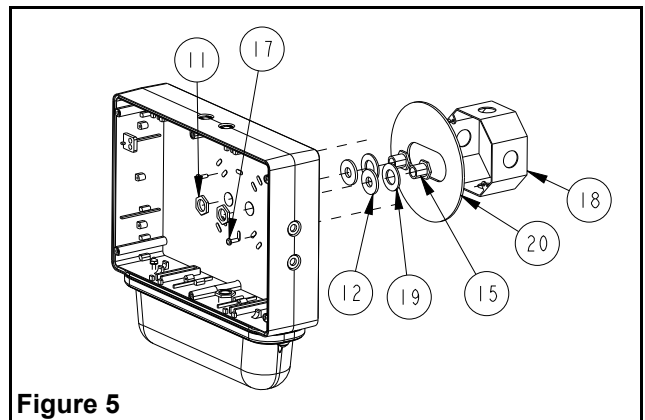

Figure 5
- a. Remove the backplate from the packaging. Determine the proper knockouts to remove for mounting to a junction box (see figure 5).
- d. Mount parts 11, 12, 15 & 19 to backplate, as shown in figure 5, and reinstall the backplate to the frame using the tamper-proof screws (use the supplied bit).